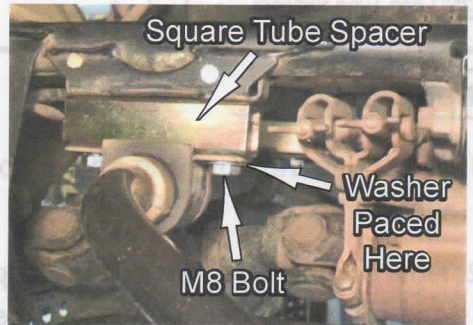

Fig.6
- Next, on one side only, unbolt the Sway Bar Mount from the frame, lower the Bar and insert one of the Square Tube Spacers (item "B") between the frame and the bar, and install using the M8 x 40mm Lg. Hex Head Bolts, Washers & Nylock Nuts provided in your kit (items "J", "K" & "L"). Tighten securely. See Fig.6 & 7.